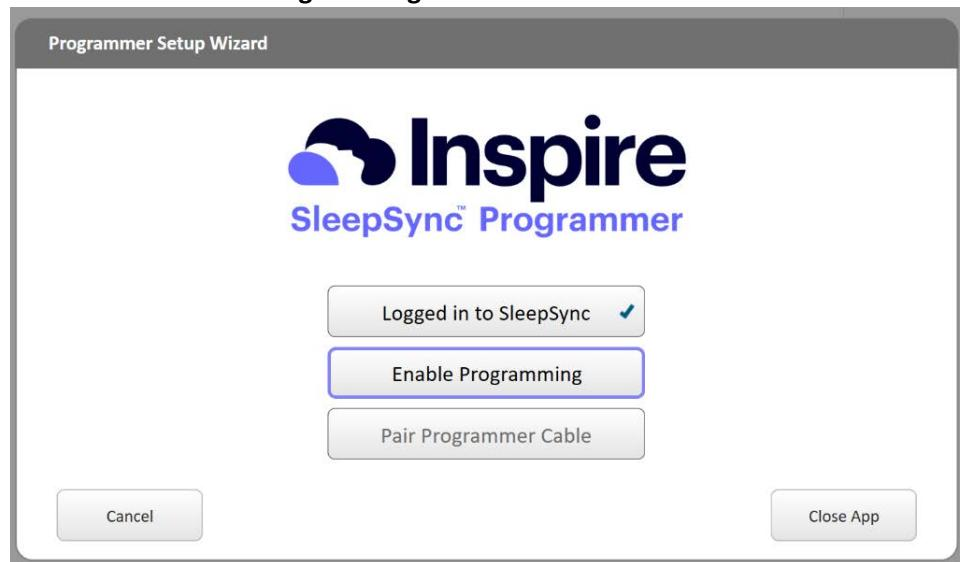

Figure 3-4. Enable Programming
- a. The Enable Programming button becomes active (Figure 3-4) after logging in. Select **Enable Programming** to continue.